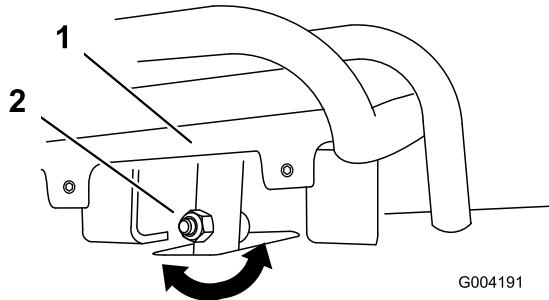
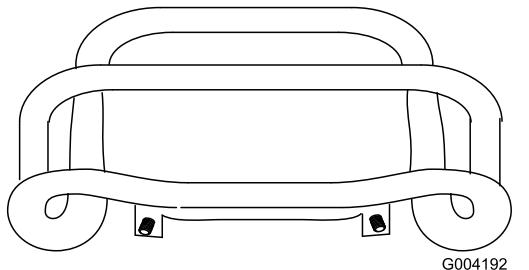

Figure 53
Figure 54
4. If the front of the traction control does not rest square and flush with the reference bar, loosen the nut and bolt in the stem of the traction control (Figure 53).
5. Adjust the traction control so that it rests flush against the reference bar when it is pulled straight back (Figure 53 and Figure 54).
C. Loosen the flange nut and bolt in the stem of the traction control (Figure 53).
I. Adjust the traction control so that it rests flush against the reference bar when it is pulled straight back (Figure 53 and Figure 54).